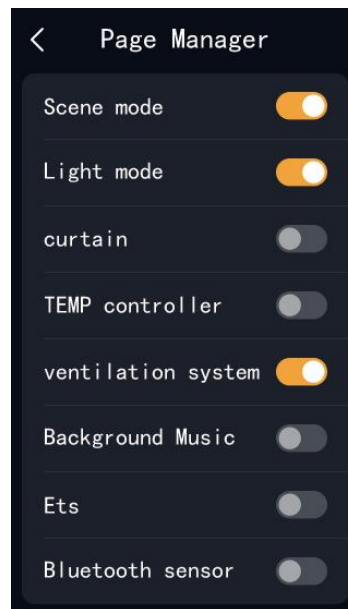

Figure 4-2-2
- Page manager: control the hiding or displaying of configured function pages (Figure 4-2-2);